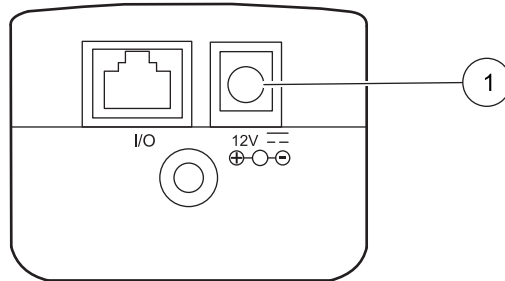

Figure 5 Location of power port
3. Plug the external power supply jack into the power port (refer to Figure 5).